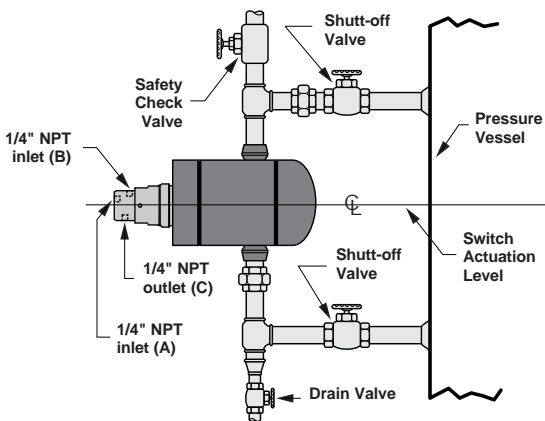

Figure 4
**Figure 4** shows a typical piping installation of a Tuffy External Cage Assembly. Switch actuates within 19 mm (0.75") above the cage-Tuffy centerline for rising level and within 19 mm (0.75") below the centerline on falling level.